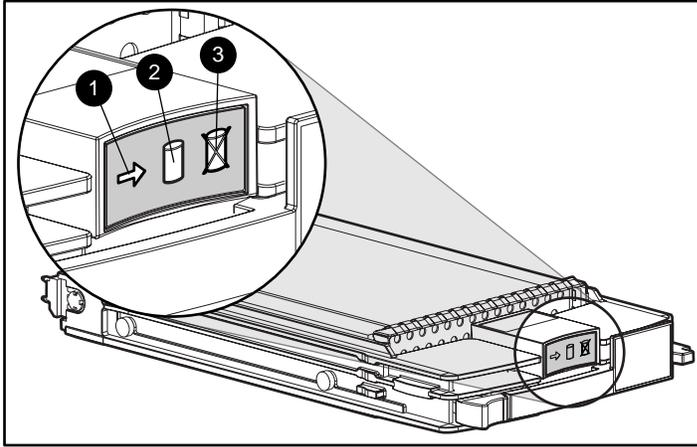

Figure 34 Disk status indicators
- Check the disk status indicators (Figure 34). If a hard failure has occurred, the fault indicator should be On.
- Check the disk status indicators (Figure 34).
- Activity indicator (1) should be on or flashing
- Online indicator (2) should be on or flashing
- Fault indicator (3) should be off